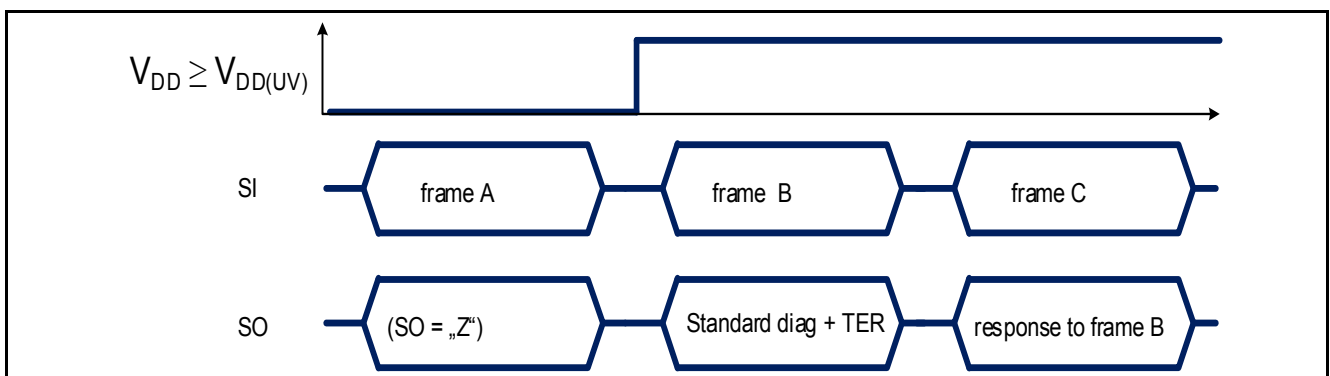

Figure 37 TLD5541-2QV response after coming out of Power-On reset at V_{DD}
- when TLD5541-2QV logic supply comes out of an Undervoltage reset condition ($V_{\text{DD}} < V_{\text{DD(UV)}}$) as shown in **Figure 37** or $\text{EN/INUVLO} < V_{\text{EN/INUVLOth}}$)